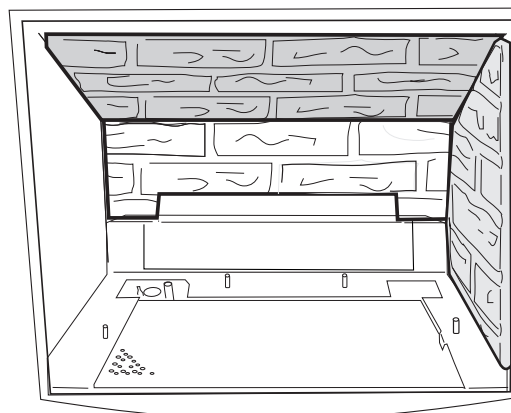

Figure 44. Install the Upper and Side Panels.
6. Install one of the Side Panels, pushing it up against the firebox wall. Fig. 44
7. Position the Upper Panel. You should seat the Upper Panel down and forward so that no gaps are evident at the panel joints, as in Fig. 44.